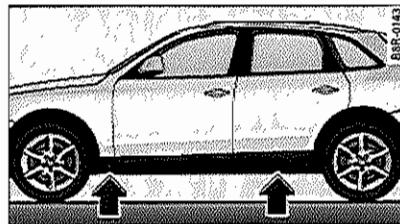

Fig. 231 Changing a wheel: mounting points for the jack
- Position the jack below the door sill under the **mounting point** that is closest to the wheel to be changed ⇒ page 305, fig. 231.
The jack must be installed **only** at the places indicated ⇒ page 305, fig. 231. There is exactly *one* location for each wheel. The jack must not be positioned at any other location ⇒ ⚠.